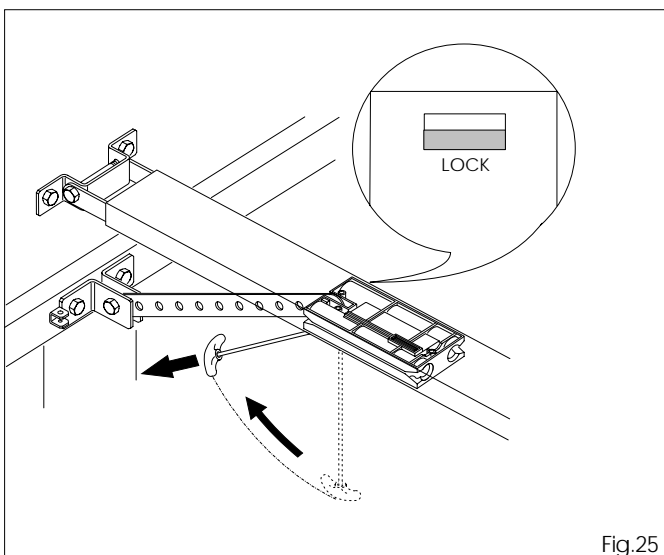

Fig.25
- 6.23 Re-lock the automatic system by pulling the handle sideways (fig.25) N.B.: on release, make sure you can see the red "LOCK" indication window under the carriage – this means it was correctly reset.